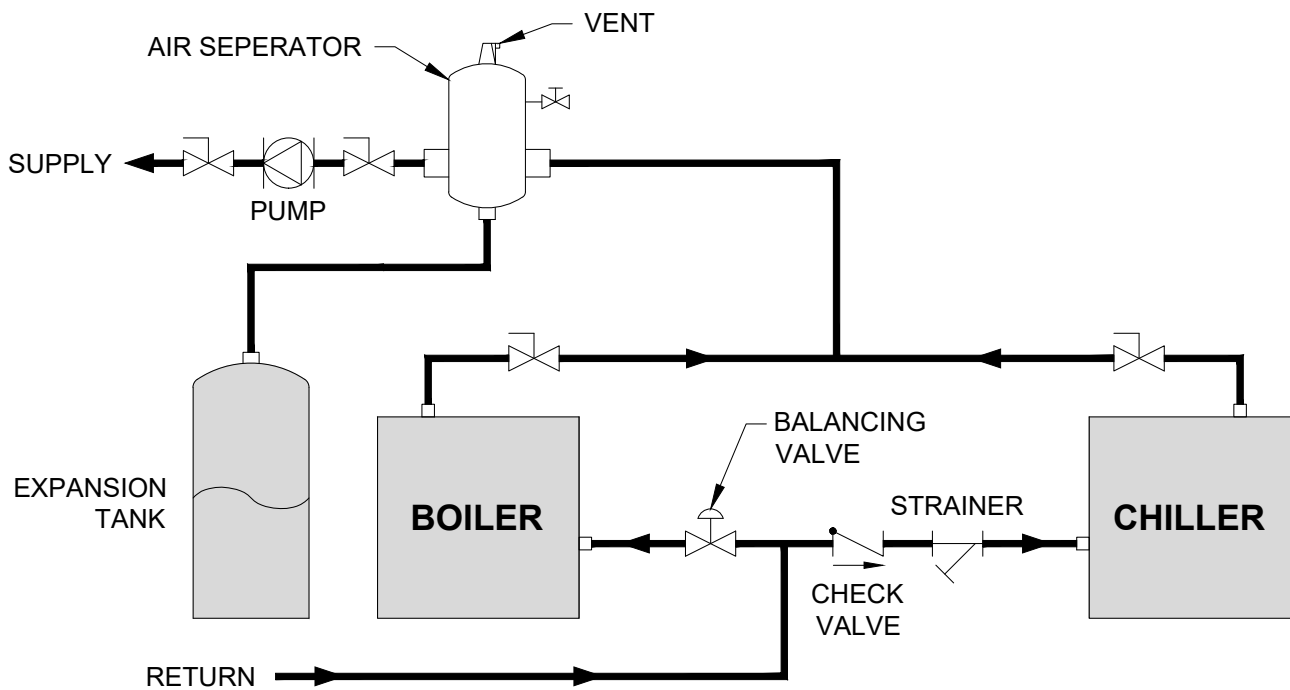

Figure 4.15: Piping to Isolate Boiler from Chilled Medium on Chiller Systems
1. If the boiler will be used in conjunction with a refrigeration system, the chilled medium must be placed parallel with the boiler and proper valves applied to prevent the chilled medium from entering the boiler. See Figure 4.15.